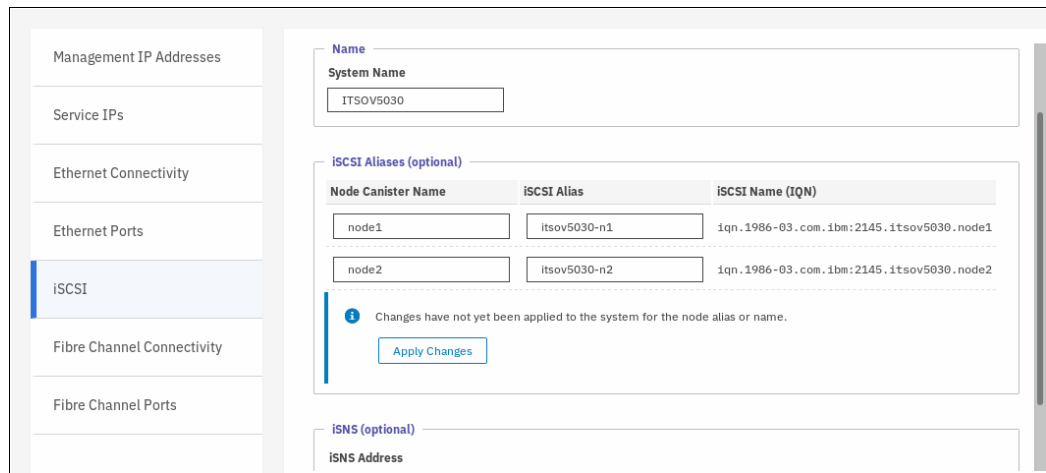

Figure 5-65 Advanced iSCSI configuration
11. You can also configure iSCSI aliases, an iSNS name, and CHAP authentication. These options are in the iSCSI Configuration view. To access this view, click **iSCSI** in the Network settings view, as shown in Figure 5-65.